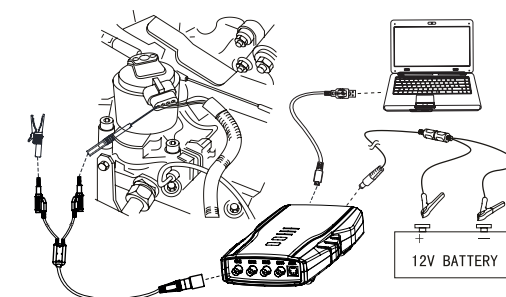

Fig. 36: Equipment connection
1. Connect equipment according to Fig.36, switch on power supply.